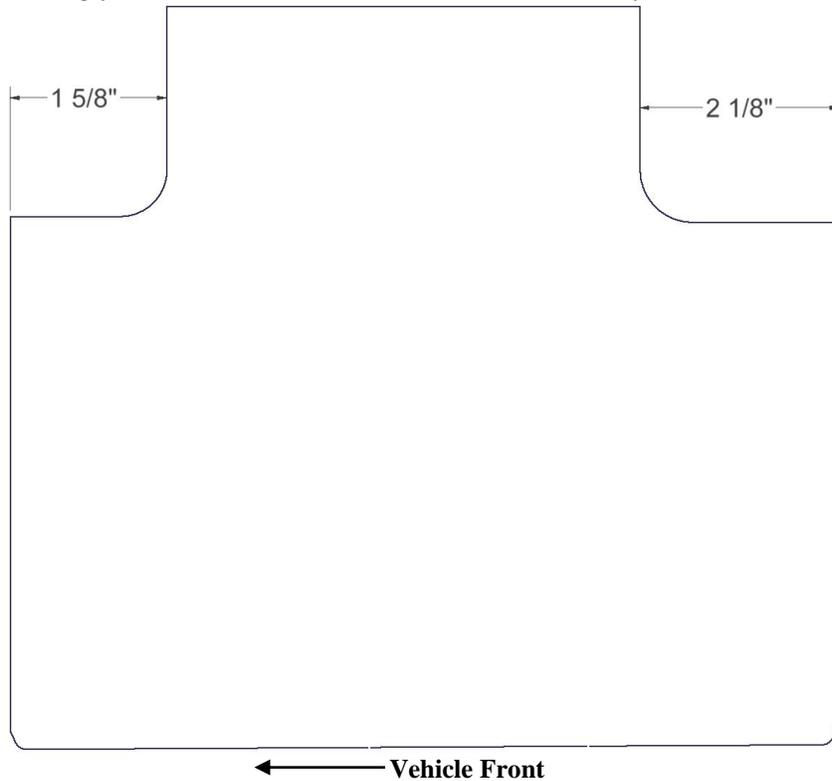

**FIGURE 4b**
12. Secure the #7 Plate to the assembly using 2) #11.7 screws, and 2) #11.6 Nuts. (See Figure 4b)